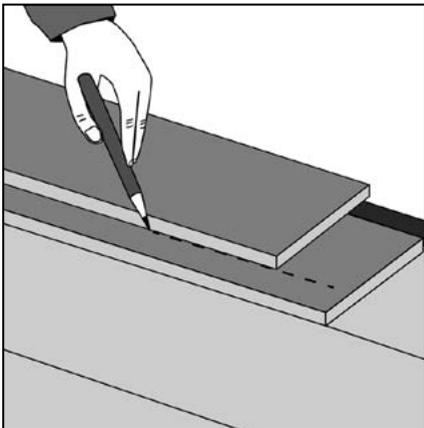

Figure 29 Last row
- ▶ Lay these planks on top of the installed row (fig 29). Hold them firmly in place. Then line up a third plank on top. Use the edge of this plank to mark the cutting line with a pencil on the plank beneath (minimum width 50mm). Carefully scribe along this line with the utility knife. Remember to place a spacer to the wall before measuring to ensure the correct expansion gap is left. After scribing, cut the planks lengthwise using a handsaw or jigsaw.